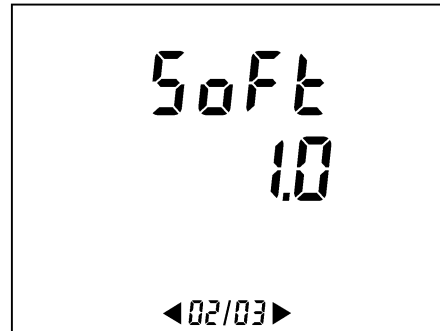

Figure 66: Software version number of embedded software (page 2/3).
- The appliance software version (*Soft* = *Software version*) (Figure 66).